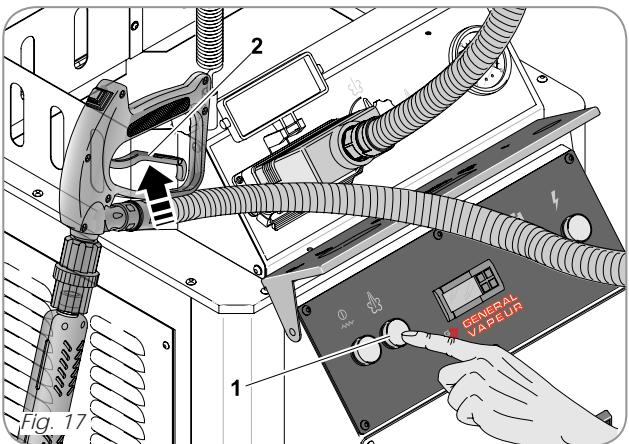

Fig. 17
Press the vapor delivery switch (1 - Fig.17) and the trigger (2) of the handgrip to deliver vapor. When the trigger is released vapor delivery stops.